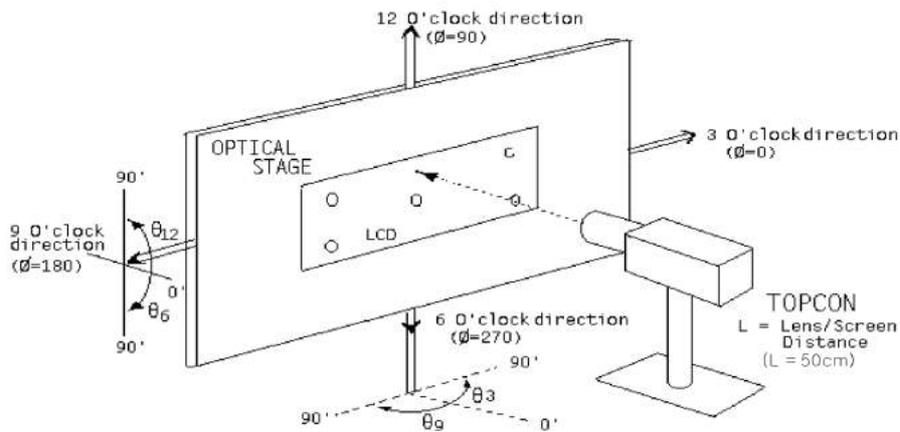

Figure 8: Measurement Set Up
- Surface luminance is the center point across the LCD surface 50cm from the surface with all pixels displaying white. This measurement shall be taken at the locations shown in FIG. 8.